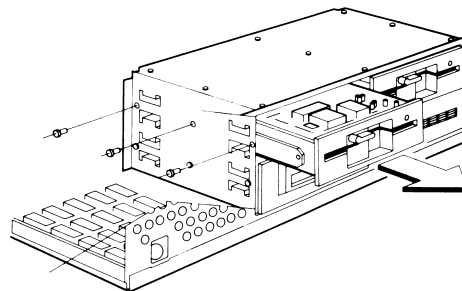

Figure 7-43. Removing Mass Storage Device A.
6. Slide out the drive (Figures 7-43 and 7-44).